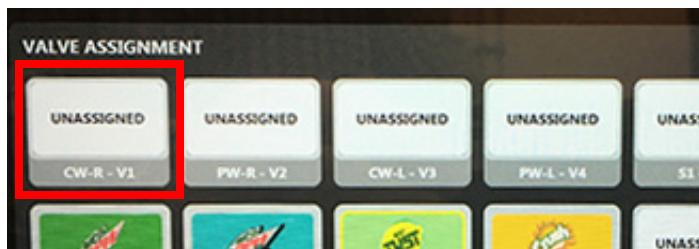

Figure 35
2. From the **Service** screen, in the Valve Assignment section, select the **UNASSIGNED CW-R-V1** icon. See Figure 35.